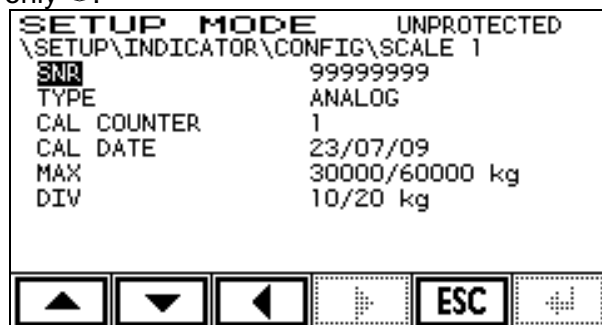

Figure 5.2.1.3.1
This allows you to view different parameters for scale 1, just as shown in figure 5.2.1.3.1. All these parameters are read-only ④: